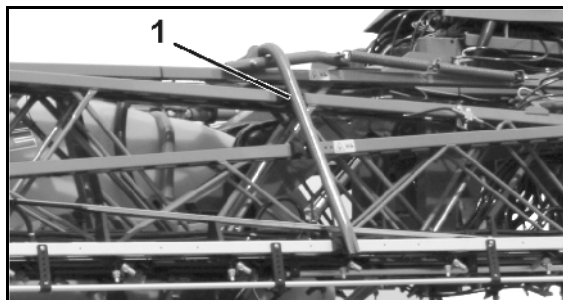

Fig. 11
- Transport locking mechanism (Fig. 11/1) to prevent the Super-L boom from folding out unintentionally